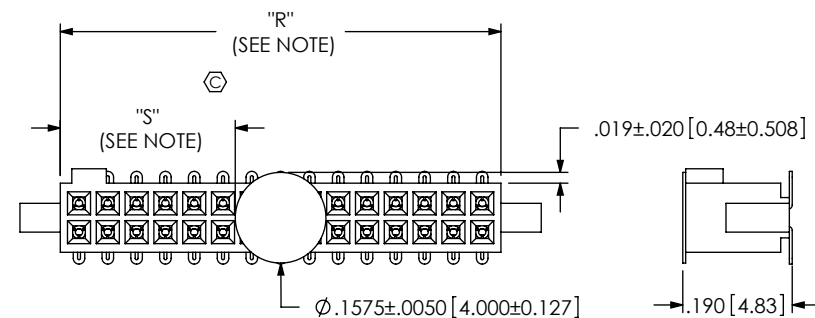

FIG 3
-K: POLYIMIDE FILM PAD (.005[0.13] THICKNESS) (SEE FIG 3, SHT 2) (USE K-DOT-.157-.250-.005)